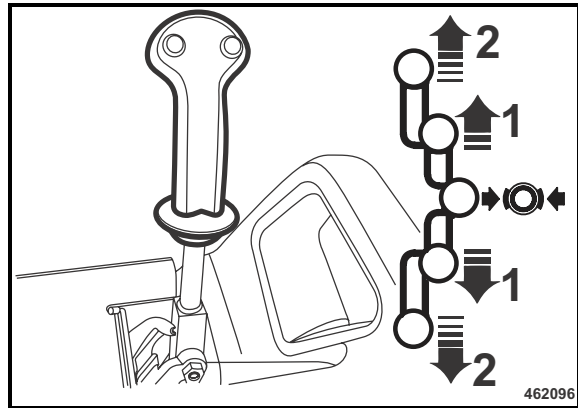

Fig. 81
- To switch on the pressure sprinkling system pull the travel lever (Fig. 81) out of braking position.